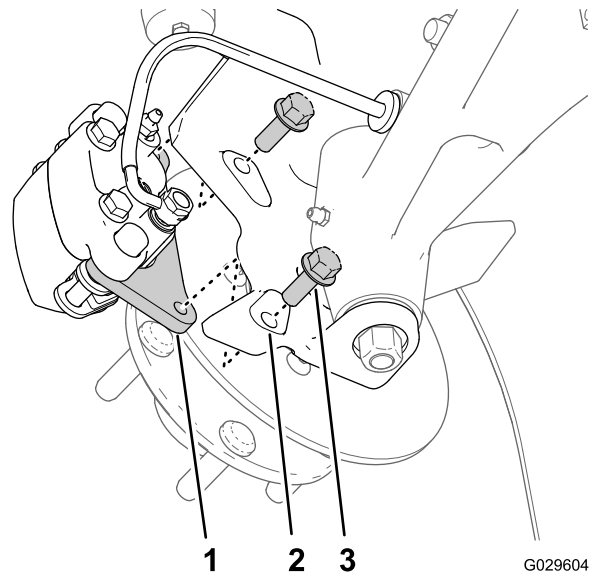
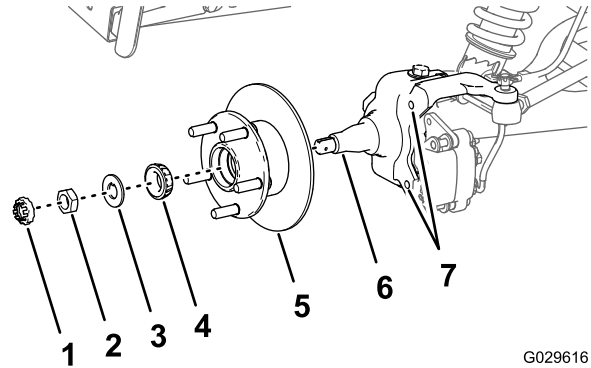

Figure 27
Figure 31
3. Remove the flange-head bolts (3/8 x 1 inch) that secure the bracket for the brake assembly to the spindle and separate the brake from the spindle (Figure 27).
1. Apply a light coat of the specified grease to the spindle (Figure 31).
2. Assemble the hub and rotor onto the spindle with the rotor inboard (Figure 31).
3. Assemble the outboard bearing onto the spindle and seat the bearing to the outboard race (Figure 31).
4. Assemble the tab washer onto the spindle (Figure 31).
5. Thread the spindle nut onto the spindle and tighten the nut while rotating the hub (Figure 31).
2. Align the brake pads to either side of the rotor (Figure 27) and the holes in the caliper bracket with the holes in the brake mount of the spindle frame (Figure 31).
3. Assemble caliper bracket to the spindle frame (Figure 27) with the 2 flange-head bolts (3/8 x 1 inch), and torque the bolts 47 to 54 N-cm (35 to 40 ft-lb).